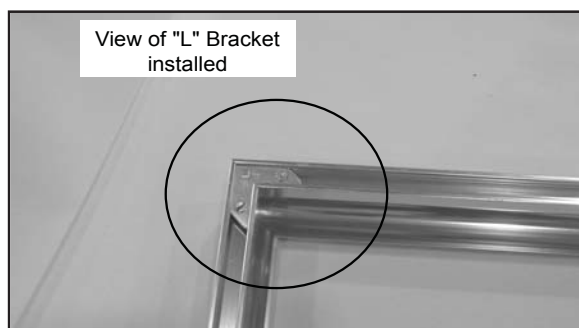

Figure 22.1
- a) Place corresponding cast trim pieces (2 cast trim sides and 1 cast trim header) underneath the surround set, also face down. Align the holes in the metal pieces with the 5 bosses on the top cast piece and 2 bosses on each side piece. **Figure 22.1.**